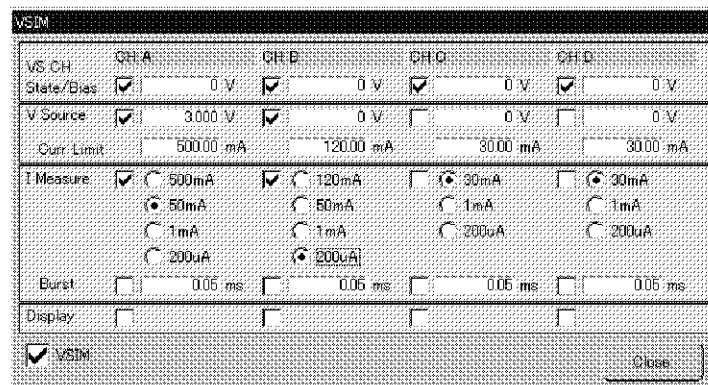

Figure 10-1 Sending the EGSM
3. Set channel A to ON (3 V) and channel B to OFF (0 V) as shown in Figure 10-1 according to the settings in Table 10-3.